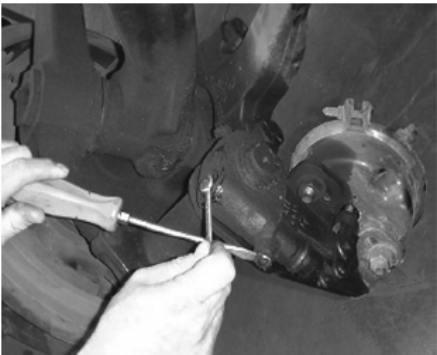

Figure 3: Retracting brake shoes
**NOTE:** In some instances, it may be necessary to slightly retract the brake shoes so the drum can clear the brake shoe / lining assembly (Figure 3).